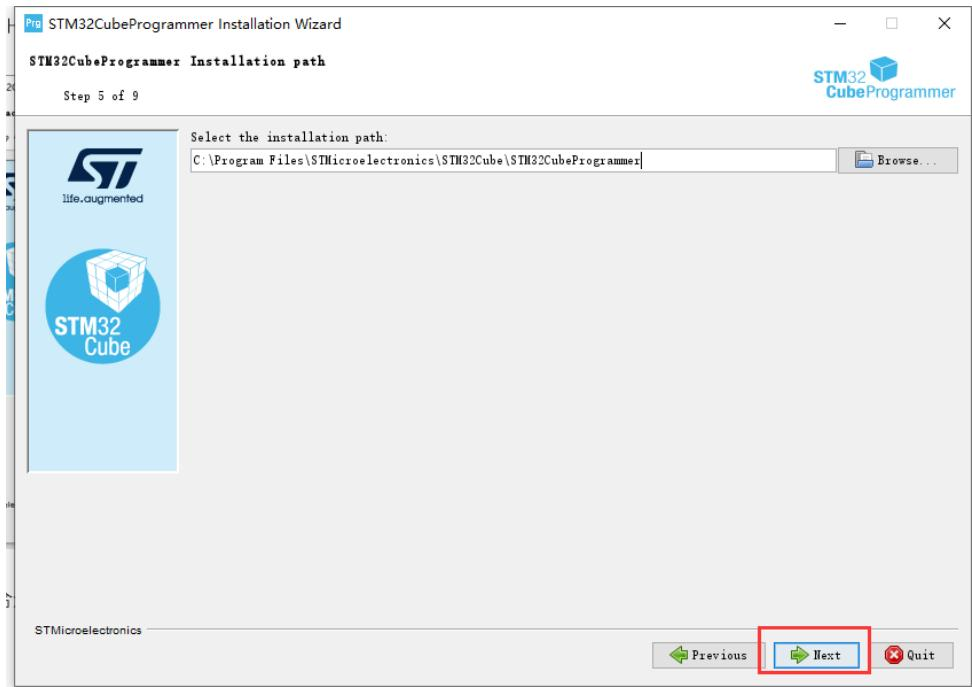

Figure 8-5
- 6) Select the appropriate installation path, as shown in Figure 8-5, and click Next: